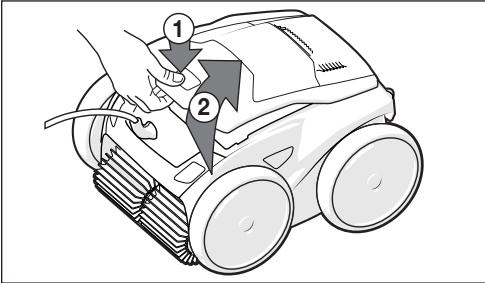

Figure 11. Lift Cleaner Cover
3. Push the cover lock (1) and lift the cover (2) until it is secured in the vertical position. See *Figure 11*.